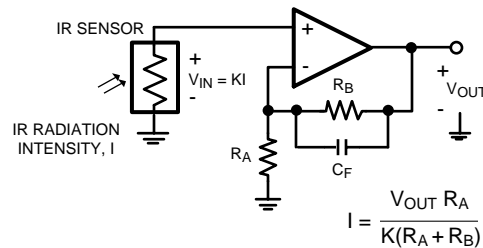

Figure 60. IR Radiation Sensor
The low input bias current and low input referred noise of the LMV791 and LMV792 make them ideal for sensor interfaces. These circuits are required to sense voltages of the order of a few μV , and currents amounting to less than a nA, and hence the operational amplifier needs to have low voltage noise and low input bias current. Typical applications include infrared (IR) thermometry, thermocouple amplifiers and pH electrode buffers. Figure 60 is an example of a typical circuit used for measuring IR radiation intensity, often used for estimating the temperature of an object from a distance. The IR sensor generates a voltage proportional to I , which is the intensity of the IR radiation falling on it. As shown in Figure 60, K is the constant of proportionality relating the voltage across the IR sensor (V_{IN}) to the radiation intensity, I . The resistances R_A and R_B are selected to provide a high gain to amplify this voltage, while C_F is added to filter out the high-frequency noise.